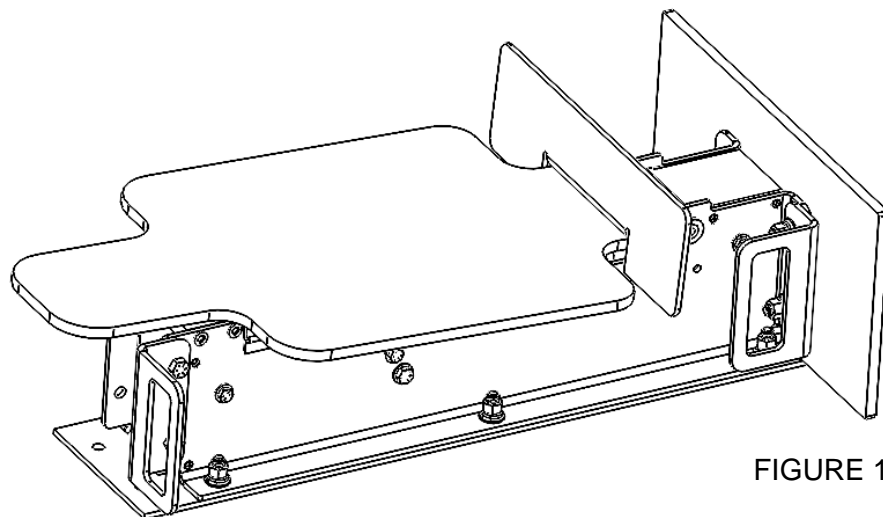

FIGURE 1
1. Install the ballistic plate as shown on page 3 Figure 1.